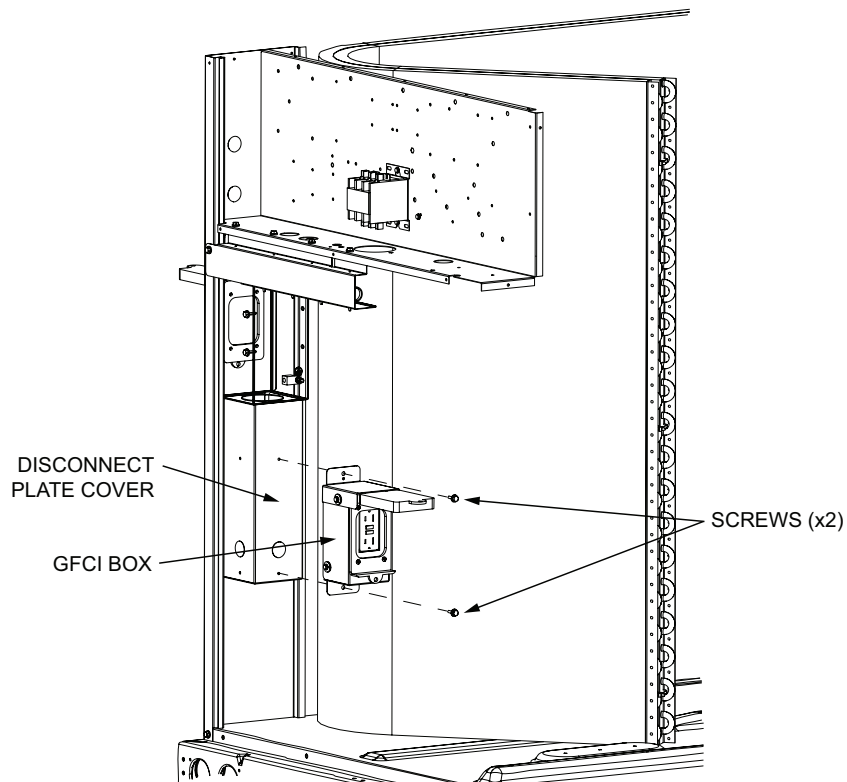

FIGURE 10
- 5 - For ZG/ZC/ZH 036 to 074, units with disconnect, the GFCI will be mounted to the Disconnect Plate Cover as shown in FIGURE 10.